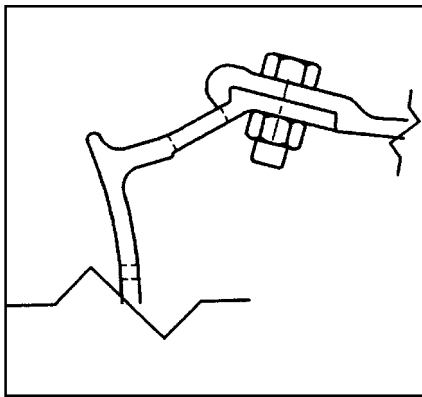

Figure 1
Mounting bracket must be securely bolted in interlocking engagement with body (see Figure 1).
2. If necessary, lug spacing on CTB5M1-6 and -9 can be changed from 24" to 12" spacing by reversing direction of mounting brackets. Be sure mounting brackets are securely bolted in interlocking engagement with body (see Figure 1).